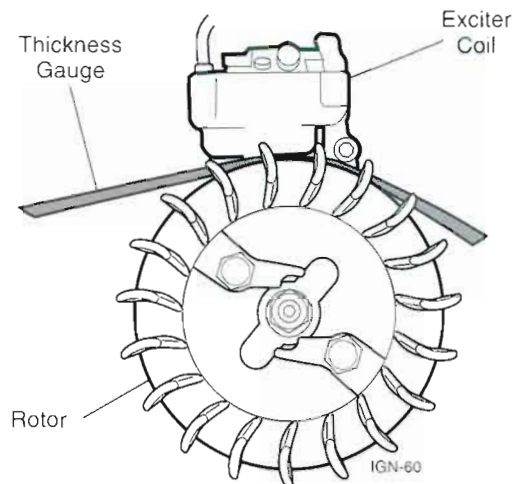

Figure 5.7 Checking the Air Gap
STEP 4. Check the Exciter Coil Air Gap (Figure 5.7)